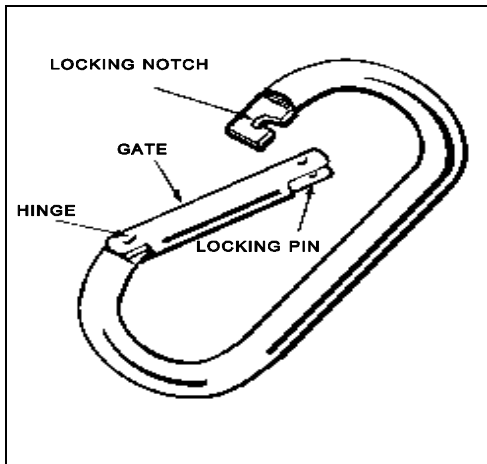
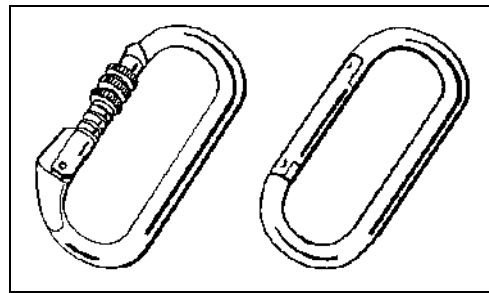

Figure 6-4. Standard snaplink (oval).
Figure 6-5. D-shaped snaplinks.
The two types of snaplinks used during military operations are the standard snaplink (Figure 6-4) and the locking gate snaplink (Figure 6-5). Both snaplinks are available in a D-shaped variation or an oval variation.
a. **D-Shaped Snaplinks.** D-shaped snaplinks are stronger than the oval type because the shape directs the largest part of the load to be applied to the longer, stronger side opposite the gate (Figure 6-5). D-shaped snaplinks are made of steel or aluminum alloys, and are available in many sizes and thicknesses, all of which can be with or without locking gates. Their strength and durability vary, which must be considered before use.